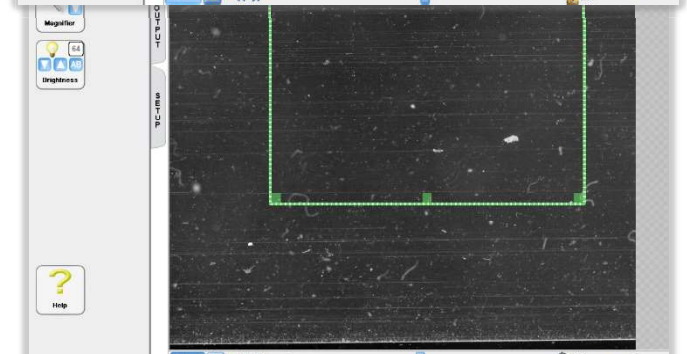

Figure 86
- If the film is not perfectly horizontal, click the *Calibrate* button. The cursor changes to a +. On the top edge of the film, click once on the left and once on the right. The corresponding red line will be used to straighten the sensor. *Figure 86*